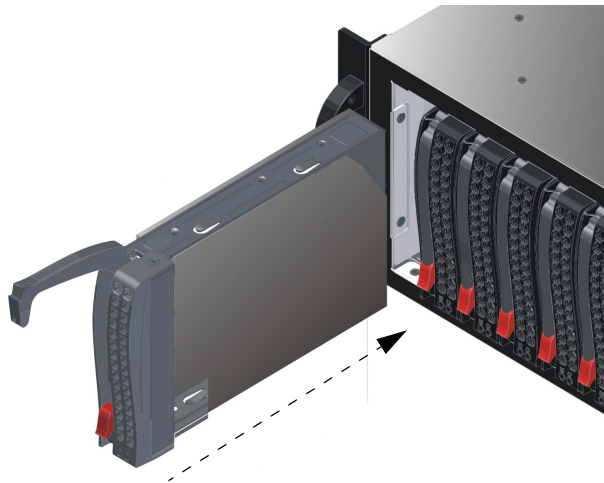

Figure 4-6 Slide Drive into DSS200 Chassis
9. Slide the drive tray into the chassis, pressing down on its handle until it snaps into place, as shown in Figure 4-6.